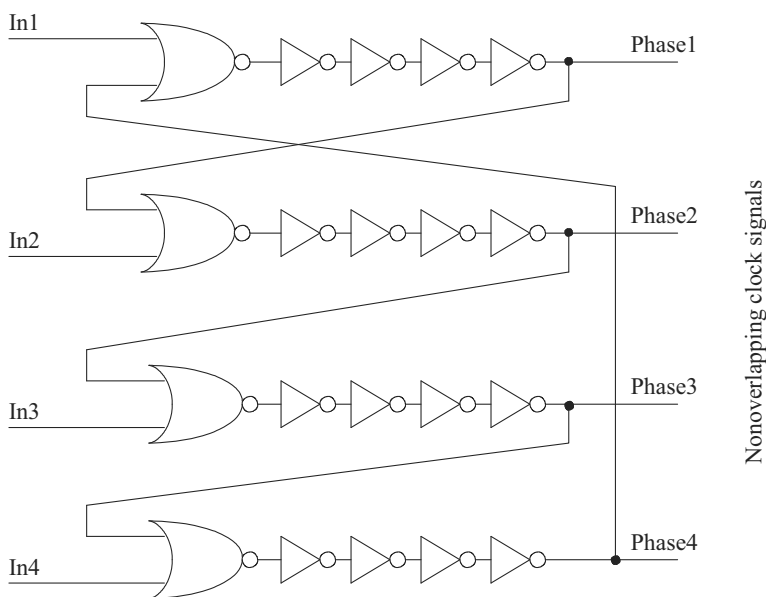

Figure 30.81 Four-phase, nonoverlapping clock generator.
- 30.21 Sketch a circuit to provide the inputs for the four-phase, nonoverlapping clock generator shown in Fig. 30.81.